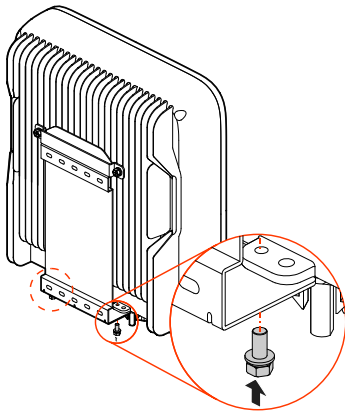
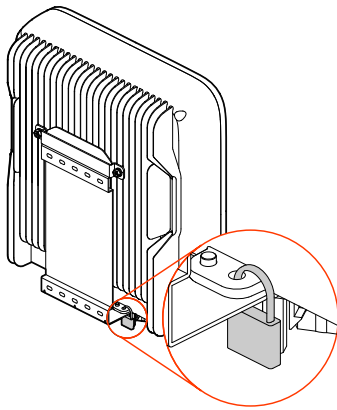

Figure3-12 Fasten the inverter
Figure3-13 Position of lock (the lock customer provided)
Step 6 Fasten the inverter to the installation holder by 2 stainless steel combination bolt M5\*12 (as shown in Figure3-12), and then lock it. The lock position is as shown in Figure3-13.